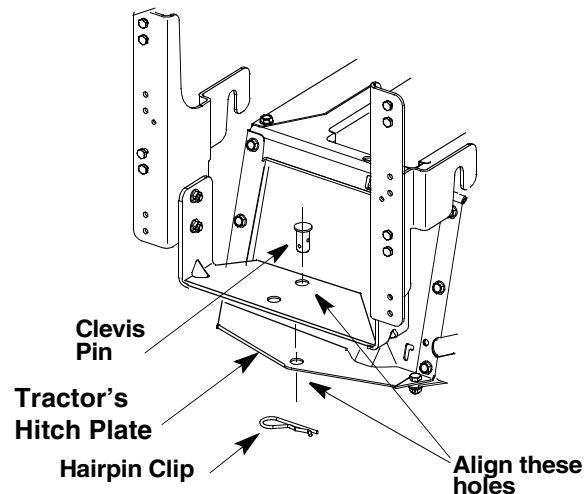

Figure 5
- Position the Support Cross Bracket (Ref. No.1) between the LH Support Catcher Bracket (Ref. No. 2) and the RH Support Catcher Bracket (Ref. No. 3). Orient the Support cross Bracket as shown in Figure 5
- Align the hole at the lower end of the support bracket subassembly to the hole on the hitch plate on the tractor and insert the Clevis Pin (Ref. No. 7) through these two holes. Secure the Clevis Pin with the Internal Cotter Pin (Ref. 11). See Figure 5.